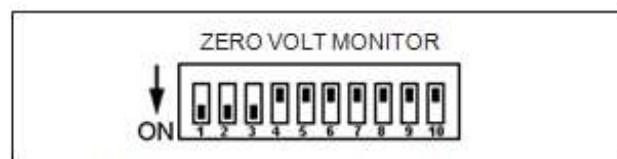

Figure 3. 50541 Universal Remote DIP switch settings
D. DIP Switches: Settings may be modified to allow compatibility for different monitors (see Figure 3).
Remove the Universal Remote from its packaging and inspect for any shipping damage. Modify the remote's DIP switch settings to match with its corresponding monitor (see Figures 3 and 4). The improved 4mm snaps give the operator the option of using the Jewel® Dual-Wire Coil Cord or Jewel® MagSnap Dual-Wire Coil Cord (with adapters). Decide on a convenient location to mount the remote; it is typically mounted under the workbench top to save workspace.
3. Route the other end of the cable to the Universal Remote and insert the plug into the modular jack located on the side of the remote. **Note:** If connected to the 732 jack, ensure that the remote's DIP switch settings match those of "3M 724 (OPERATOR 1)" in Figure 3. If connected to the 733 jack, ensure that the remote's DIP switch settings match those of "3M 724 (OPERATOR 2)" in Figure 3.